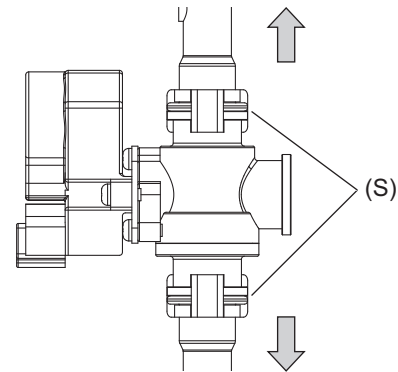

Fig.25
(2) Remove the clips (S) on the inlet/outlet of the FCV. (Fig. 25)
(3) Remove the inlet/outlet piping connecting the FCV. (Fig. 25)